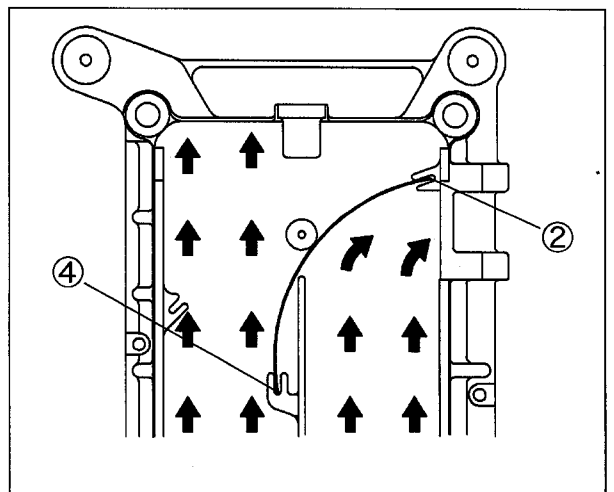

Fig. 74
For high speed and less dust during sewing, insert the air deflector ① into the guides ② and ④. (See Fig. 74)